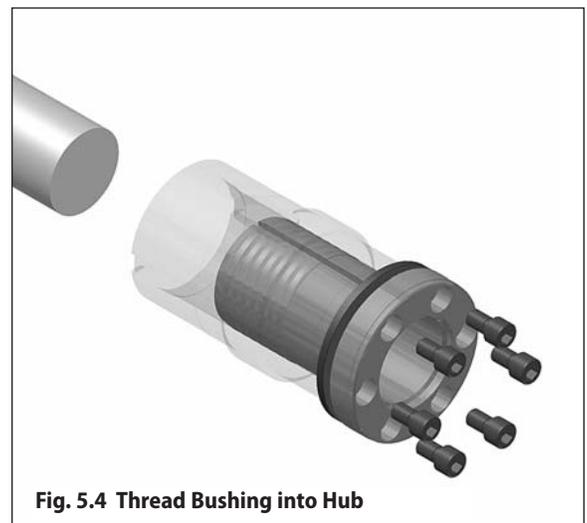

Fig. 5.4 Thread Bushing into Hub
Step 3 – Carefully thread the Taper-Grip® bushing into the hub of the speed reducer or gearmotor until the thrust collar solidly engages the unit hub surface and the bushing flange (see Fig. 5.4). **Caution: Do not cross-thread. Bushing should thread easily into hub.**